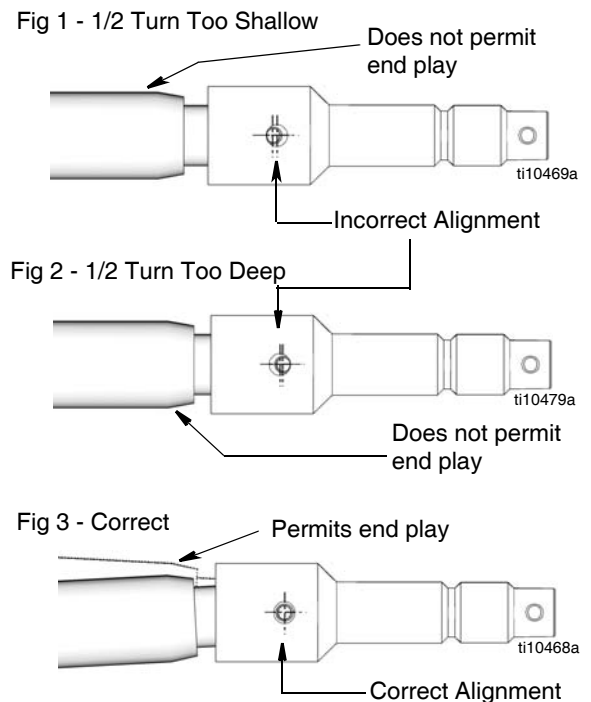

Fig. 21
- If these connections seem too rigid remove the pin and adjust hole alignment by 1/2 turn in the direction that aligns the through holes as close as possible, axis-to-axis (Fig. 21).